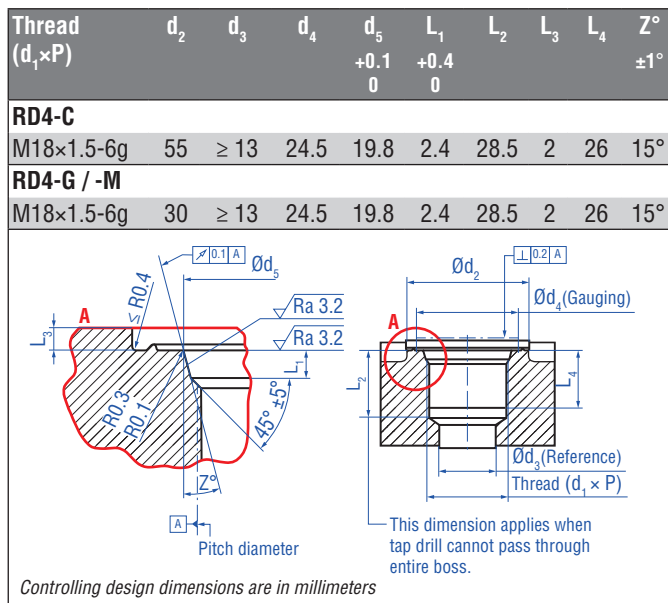

Fig. 18: Notice for metric threaded flange M18x1.5-6g based on DIN ISO 6149-1
3. A sealing by using an O-ring 15.3 × 2.2 mm (0.6 × 0.09 in.) (part no. 401 133) in the undercut. In this case, a screw hole based on ISO 6149-1 (Fig. 18) must be provided. See ISO 6149-1 for further information.